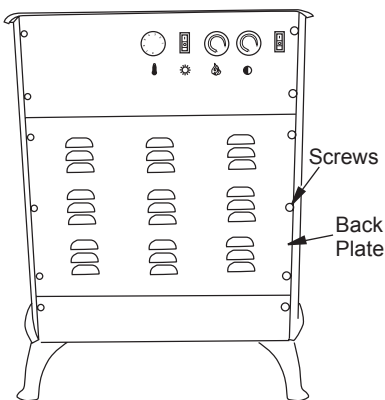

Figure 7 - Locating Flame Generation Cylinder
1. Remove the 6 screws from back of stove shown in Figure 7. Remove back plate.